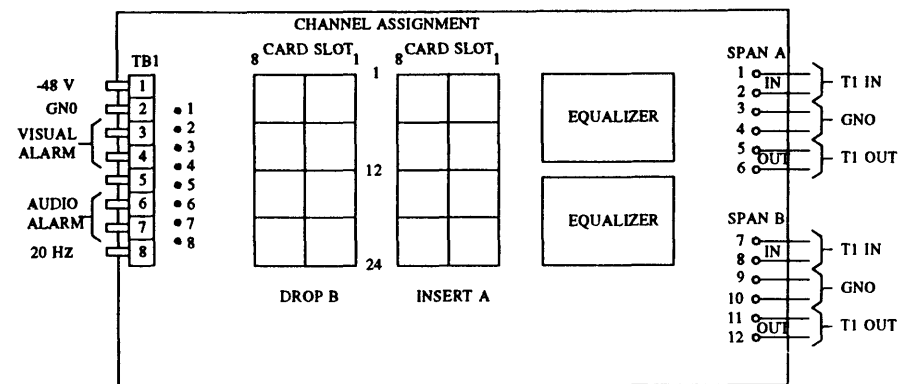

Figure 31-12. CDM Equalizer Locations
- Unplug the equalizers — See figure 31-12.